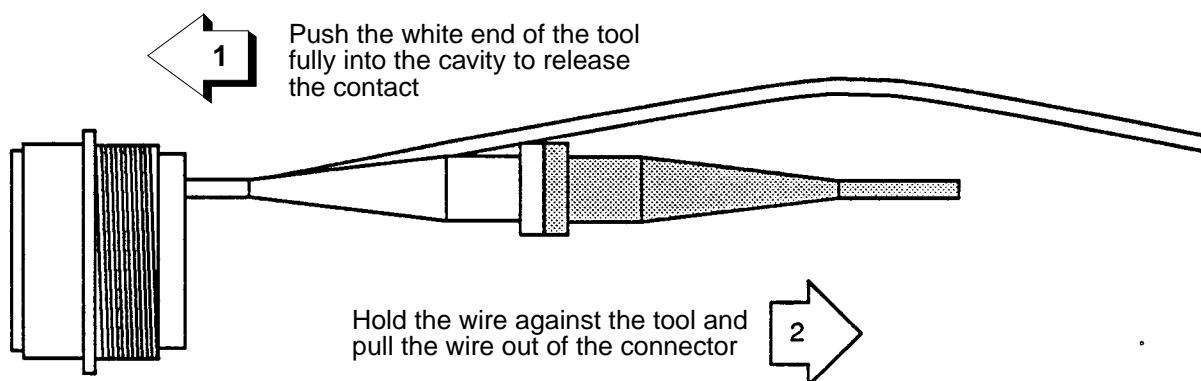

Figure 17 - Removal of Rear Release Contacts
- Step 3. Place the wire of the contact in the groove of the tool (white end for M81969/14 type tools) and push the tool into the rear of the connector until it bottoms against the contact shoulder to release the contact retaining clip (see Figure 17).
- Step 4. While maintaining a slight pressure on the tool, press the wire firmly against the serrated shoulder at the centre of the tool and pull back carefully on the wire and tool (see Figure 17).